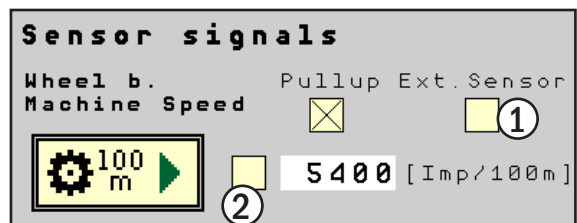

Fig. 77: Sensor signals – WBS via signal socket
If the built-in signal socket has a WBS signal and it complies with the default value of ISO 11786 (13000 pulses / 100m), you only need to make sure that the check boxes (1) and (2) in Fig. 77 are disabled.